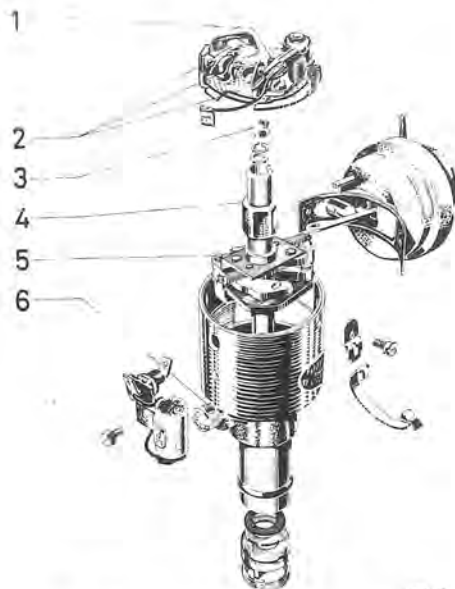

Fig. 3-57. Lubricating scheme for distributor
1. Lubricate the distributor parts according to the instructions given in Fig. 3-57.
- Lubricate the distributor according to the instructions given in Fig. 3-57.